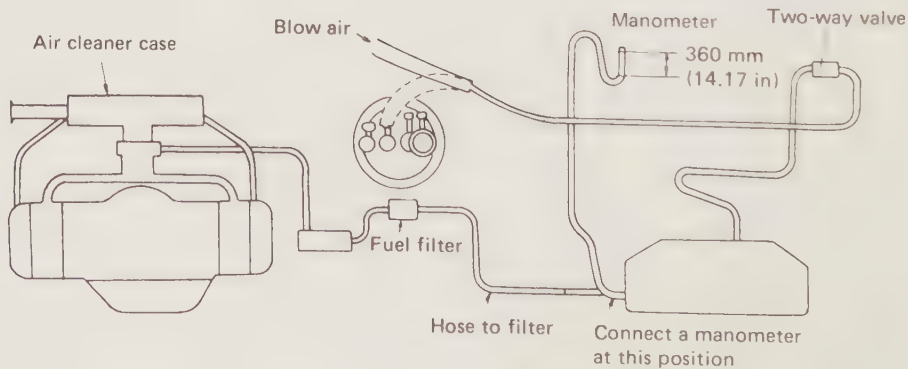

Fig. 3.32. Testing the fuel evaporative system
- d) Disconnect the fuel delivery hose from the pipe under the body and fit a manometer to the hose as shown in Fig. 3.32. The manometer should be capable of measuring up to 15.8 in (400 mm).